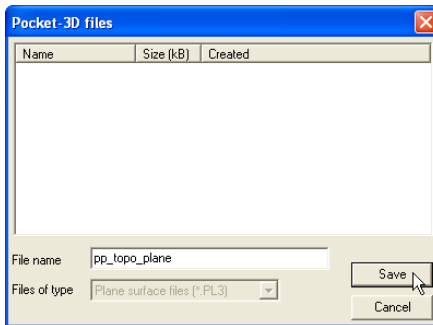

Figure 7-19. Save Plane Surface File to Pocket-3D Controller
3. On the *Pocket-3D files* dialog box, do one of the following and click **Save** (Figure 7-19):